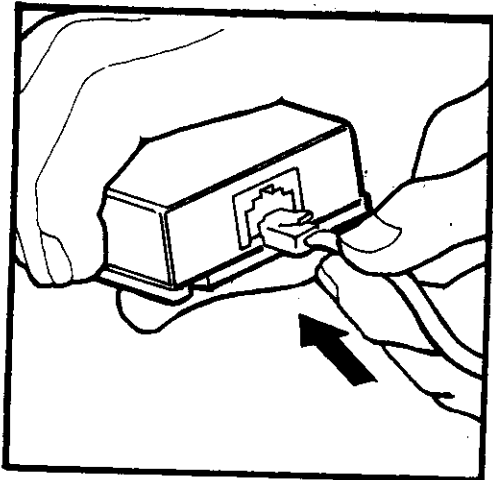

Figure 5-12 PLUGGING IN THE LINE CORD
- 6.02** To install the telephone, plug it into the modular jack. All telephones are equipped with modular plugs (Figure 5-12). Refer to Section 9 OPTIONAL EQUIPMENT for installation of an SPDU-6A PCB in a Standard Key Telephone.